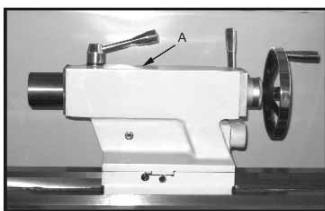

Fig. 8
- Tailstock:** Lubricate one ball oiler (A, Fig. 8) on top of tailstock with Mobil DTE® Oil Heavy Medium oil daily.